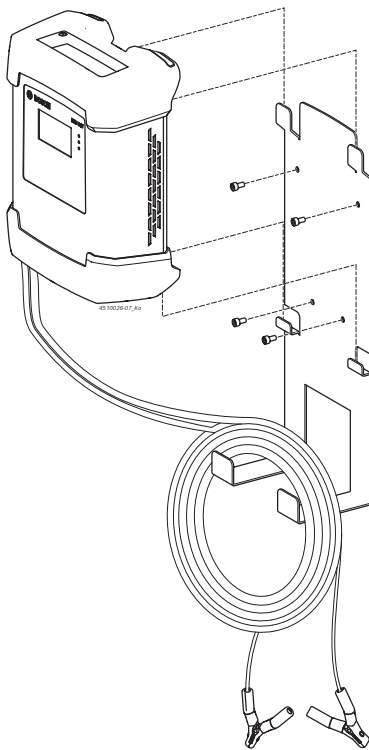

Fig. 2: BAT 645 with wall mounting
**I** The four bases of the BAT 645 must always be hooked into the wall mounting at the top and bottom. The charging cables and power supply cable can be hooked into the wall mounting (see fig. 2).